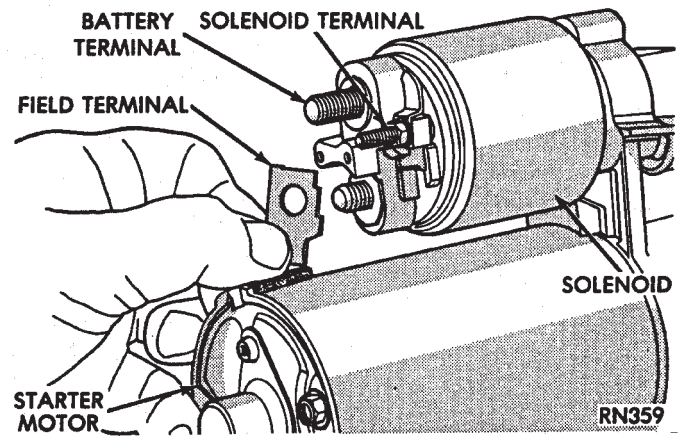

Fig. 15 Field Coil Terminal
- (2) Remove field terminal (Fig. 15).